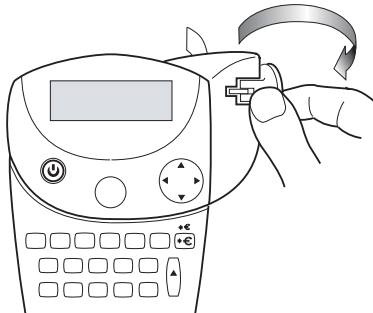

Figure 6
- Cut the label using your thumb to lift the cutting lever and pull it towards the back of the printer. See Figure 6.